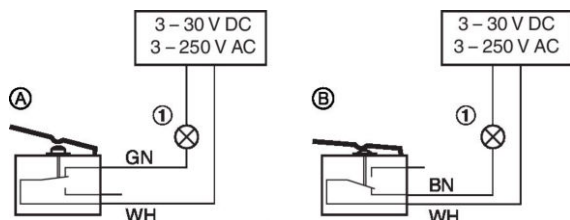

Fig. 116: Wiring of limit switches, example
- The limit switches must be connected according to the wiring example Fig. 116